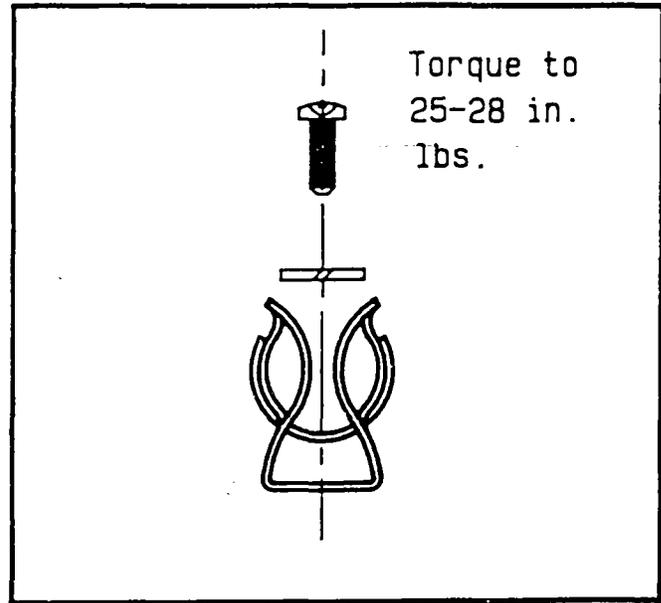

Fig. 4
11. Using Figure 4, install the fuse clips provided, on the disconnect device with #10-32 x 5/16 long panhead machine screws and torque screws to 25-28 in. lbs.